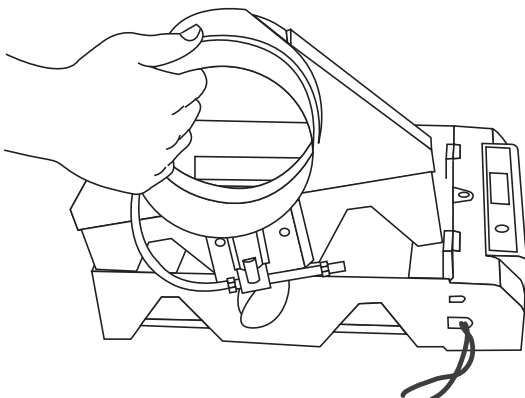

Figure 12
- Lift the humidifier side out of the right hand position, turn the part and position it on the other side of the humidifier. (fig. 12)